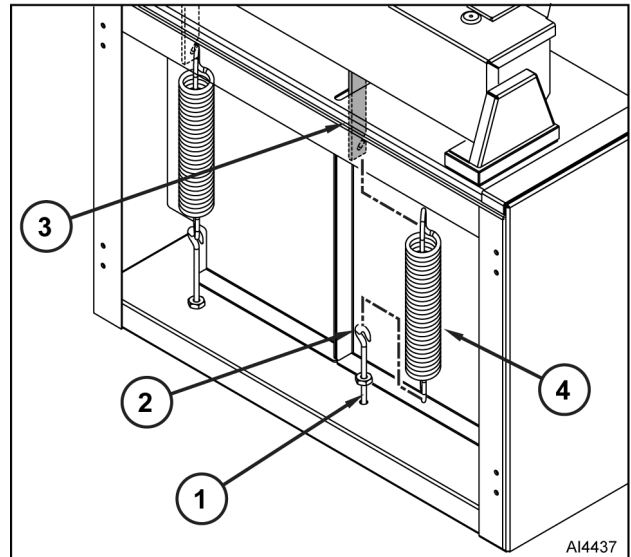

Fig. 17
- Loosen all eye bolt mounting nuts (1, Fig. 17) to release tension on springs.
- Remove lift assist spring (4, Fig. 17) from eye bolt hooks (2).
- Remove lift assist spring from hanger (3, Fig. 17).